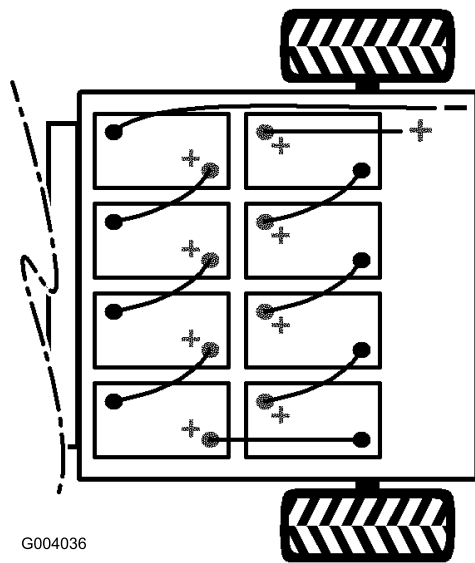

Figure 6
4. Install the batteries as shown in Figure 6.
Note: Pay attention to the battery polarity when installing the new batteries (Figure 6).
6. Connect the batteries together with the battery cables included in loose parts, as shown in Figure 6. Ensure the cable routing does not allow cables to contact any sharp edges.
7. Tighten the bolt and secure the other side of the clip with a new bolt (5/16 x 3/4 inch) and flange nut (5/16 inch) (Figure 6).
8. Connect the long, red, main positive lead between the bank of batteries and the vehicle (Figure 6).
9. Connect the long, black, main negative lead between the bank of batteries and the vehicle (Figure 6).